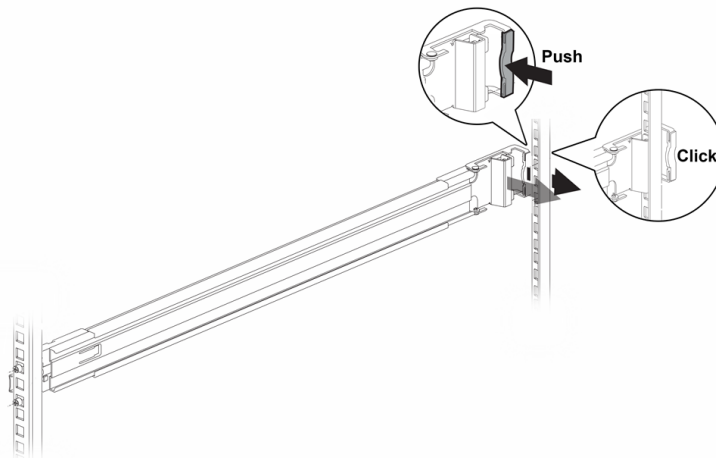

Figure 9: Attaching the Slider Assembly to the Rear Rack Post
- d. Snap the rear clamp into place. See Figure 9.